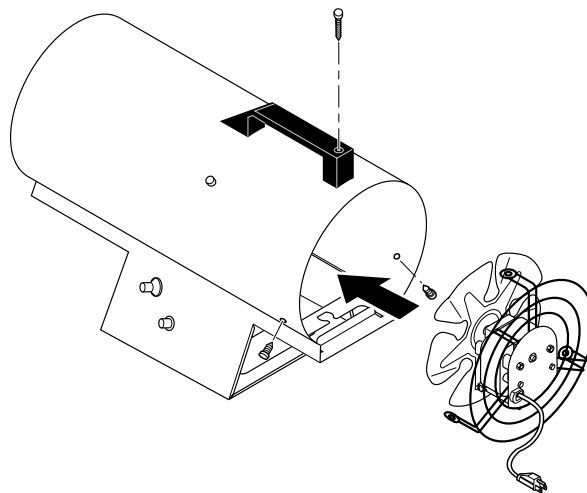

Figure 12 - Replacing Motor and Fan Guard into Heater
11. Place motor and fan guard into rear of heater shell. Make sure power cord is properly located (see Figure 12).